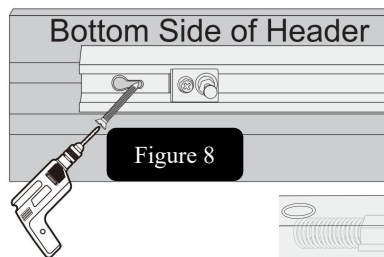

Figure 8
Step 8: Fasten track to the header using long screws (Figure 8).